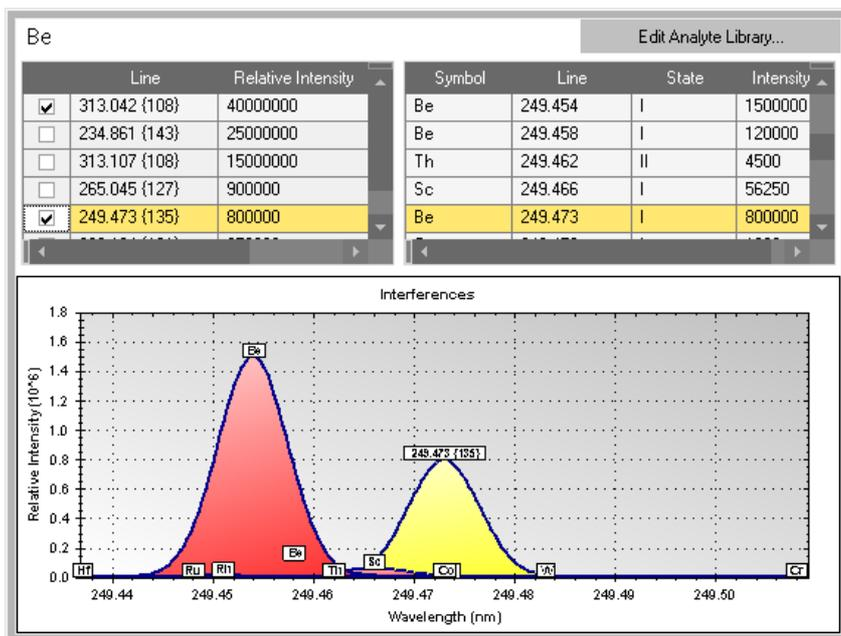

Figure 9-5. Selected interferences of an element
3. Select a check box for a **Line** on the left to show the interferences of the selected line for the analyte, see Figure 9-5.